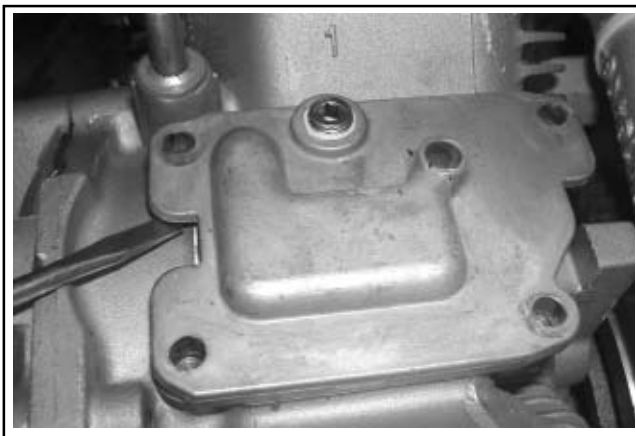

Figure 9-29. Break Breather Cover Seal.
4. Pry under the protruding edge of the breather cover with a screwdriver to break the RTV or gasket seal. See Figure 9-29. Do not pry on the sealing surfaces as it could cause damage resulting in leaks. Most engines use a formed gasket rather than RTV sealant.